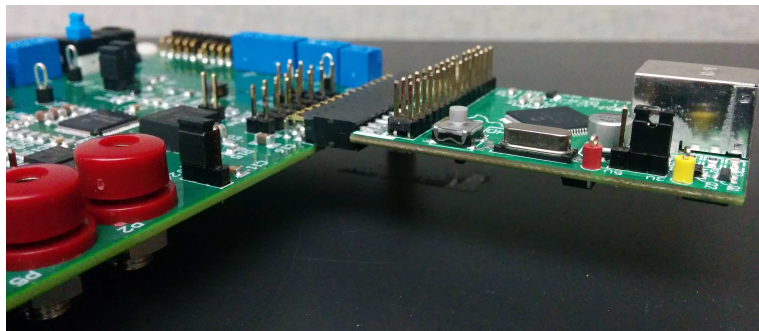

Figure 2. TIGER Board Configuration
- Step 4. Connect the TIGER interface board to the J11 header as shown in Figure 2. For the GUI to communicate with the TPS99110-Q1 device, this interface board must be connected and jumpers J5, J7, J8, and J12 must be populated.